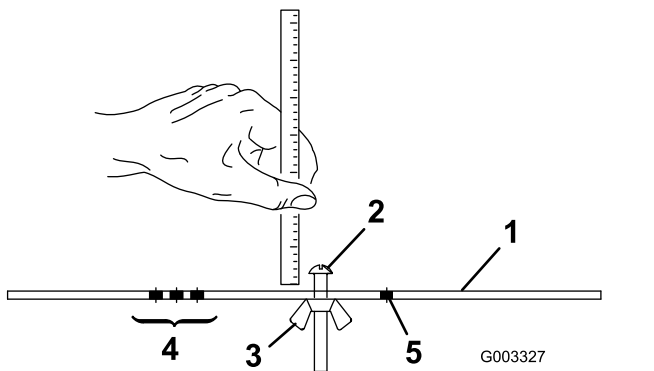

Figure 15
2. Loosen the nut on the gauge bar (Figure 15) and set the adjusting screw to the desired height of cut.